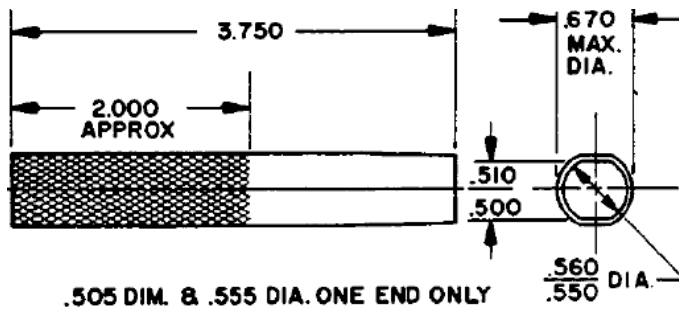

Figure 5-53. Spring Seat Tool
- f. Hold pilot-valve plunger down against snap ring and use Woodward tool 360692 or equivalent (Figure 5-53.) to thread spring seat onto plunger stem. Turn spring seat down until it touches overriding piston; then back off 1/4 turn. (Plunger will begin to rise if spring is turned down further on thread after touching piston.)